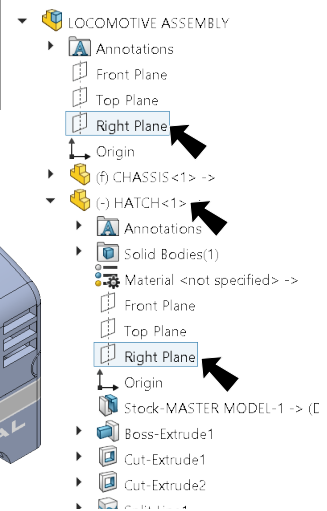

Fig. 3
Step 2. Expand the flyout Feature Manager design tree in the top left corner of the graphics area, expand **Hatch** and click **Right Plane** , **Fig. 3**.